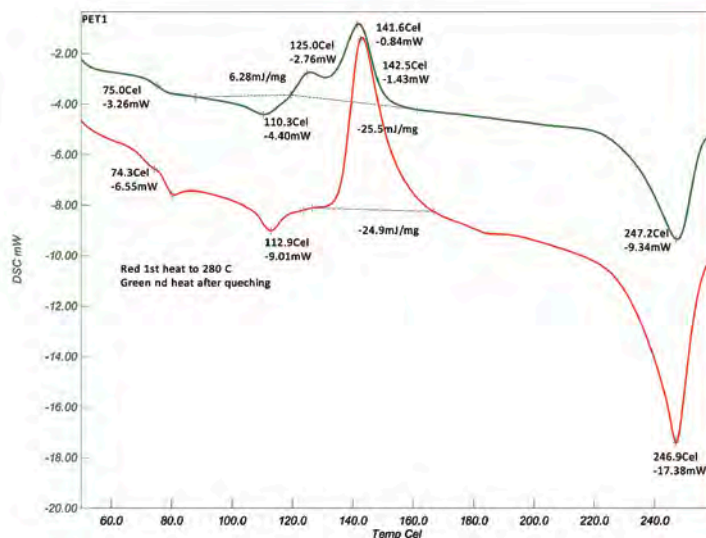

FIGURE 2: 1st and heat scans for PET1 (DSC 10 °C/minute heat rate)
The glass transition temperature for properly dried PET varies from 69 °C (156 °F) for amorphous to 81 °C (178 °F) for crystalline PET. It varies mostly with molecular weight (IV), amount of plasticizer, and thermal history. DSC testing was performed by first heating the sample at 10 °C/ minute rate from 30 °C to 290 °C, holding at 290 °C for one minute, quickly quenching to room temperature and then reheating at 10 °C/ minute rate to 280 °C. Figures 2 and 3 show the 1st and 2nd